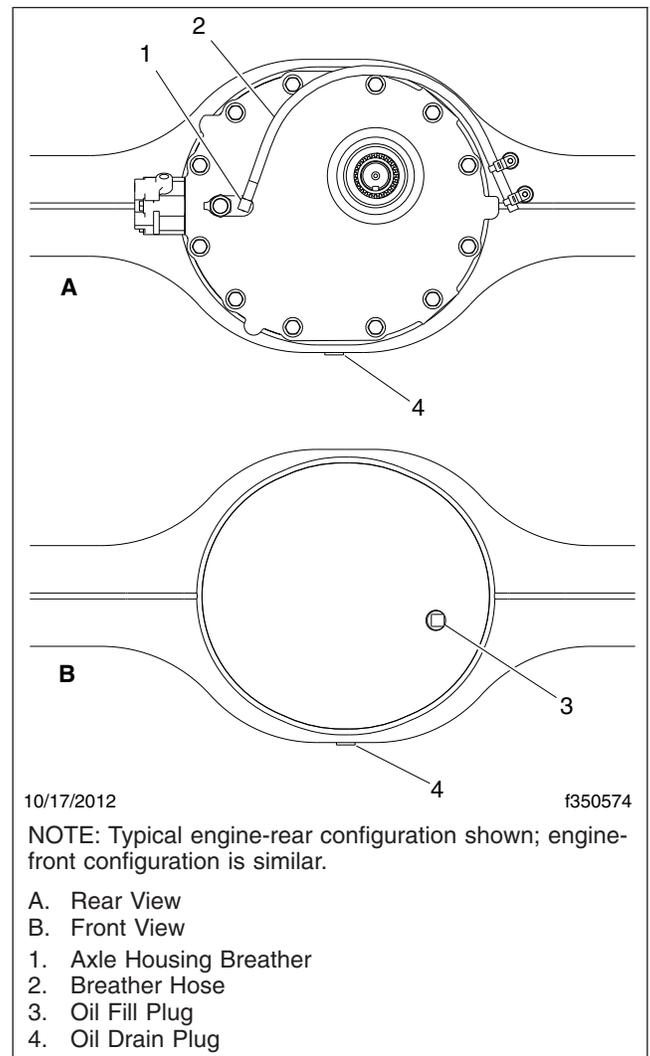
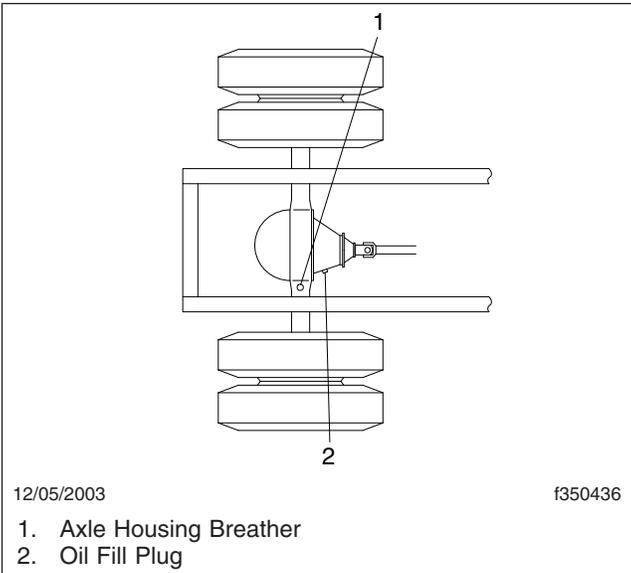

Fig. 1, Component Locations, Detroit Axles
Fig. 2, Component Locations, Meritor Axles
3. Clean the fill plug and the area surrounding the fill plug on the side of the axle carrier. Remove the plug. Check lubricant level when the axle is cold, or near room temperature. See **Fig. 1** and **Fig. 2**.
2. Clean the fill plug and the area around it. Remove the plug from the oil fill hole. See Fig. 1.